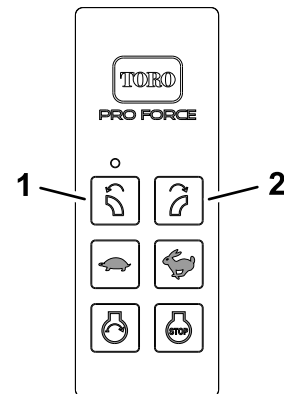

Figure 51
4. Simultaneously press and hold the ROTATE NOZZLE LEFT and ROTATE NOZZLE RIGHT buttons (Figure 51).
7. Press and hold the ROTATE NOZZLE LEFT button (Figure 51).
8. Continue holding the ROTATE NOZZLE LEFT button (Figure 51) and turn the ignition key start to the RUN position.
- Release the ROTATE NOZZLE LEFT button (Figure 51), and rotate the ignition key to the STOP position.